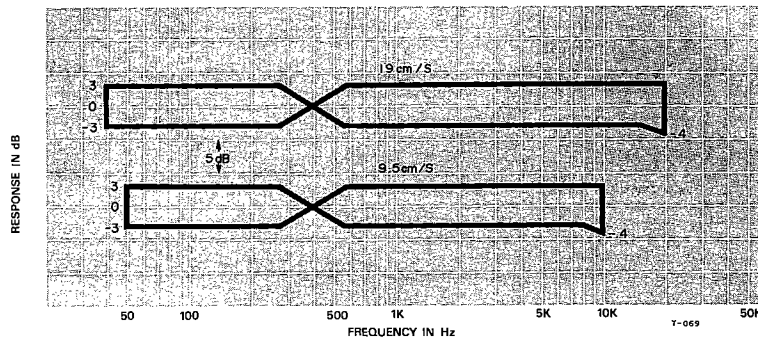

Fig. 7-4 Frequency Response Limits -Playback-
6. Compare the readings obtained on the level meter with the response limits given in figure 7-4.